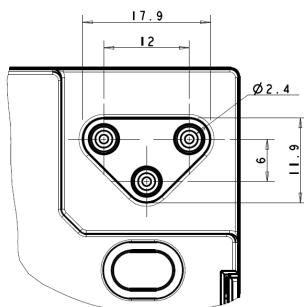

Fig. 4
**B:** supply with triangular outlet type SP1 (Fig. 4);